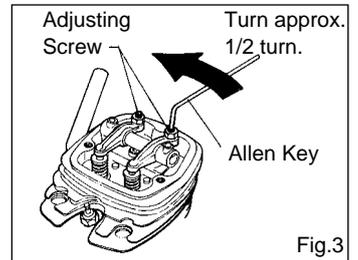

Fig.3
2. Turn adjusting-screw approx. 1/2 turn counter-clockwise to open gap, using appropriate tool -i.e. Allen hex key. (Fig.3.)